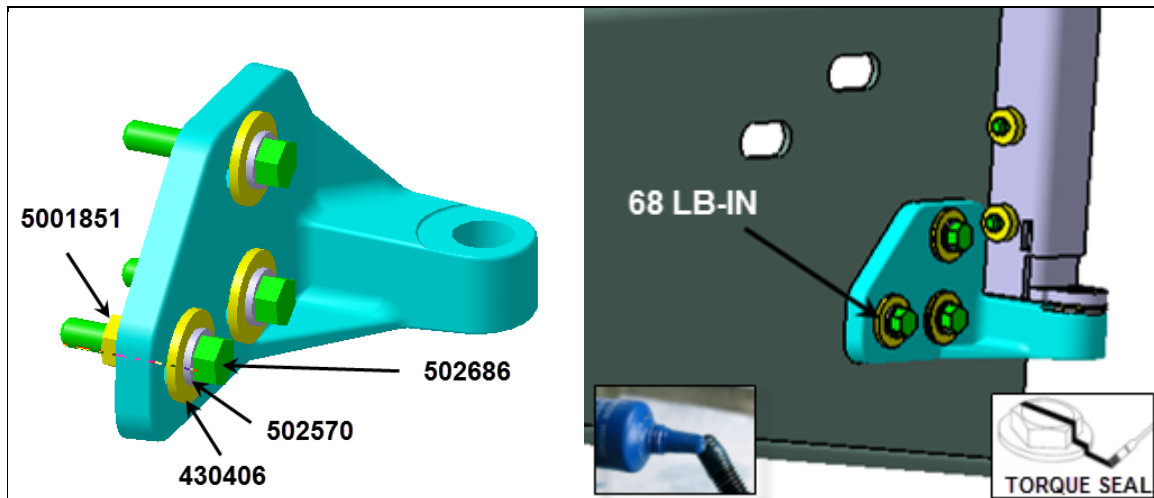

FIG.20 LOWER HINGE BOLT INSTALLATION & TIGHTENING TORQUE
- 9) Install the supplied bolt **502686**, nut **500851**, washer **430406** and lock washer **502570** in the previously drilled hole, Apply medium strength threadlocker and torque to **68 lb-in.** Apply a stripe of tamper proof indicator paint (torque seal) to the bolt head (Fig.20).